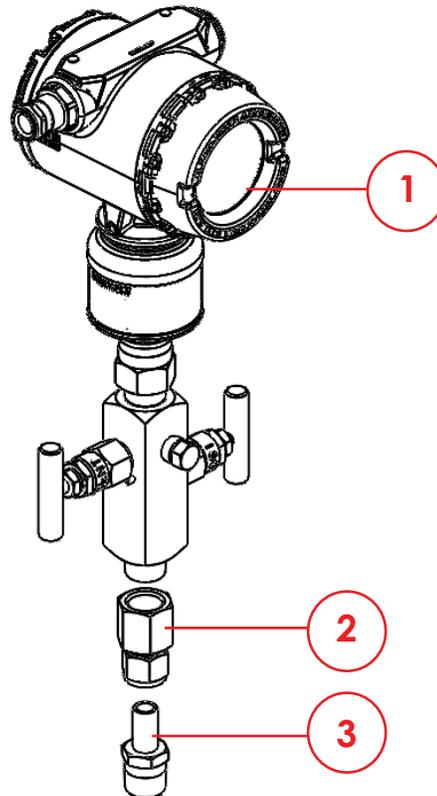

Figure 2: Transmitter assembly (with Swagelok fittings)
1. Remove the transmitters (Item 1) and discard the Swagelok fittings (Item 2 and Item 3). Refer to Figure 2.
1. There are six (6) pressure transmitters installed on the MPD Manifold. Remove the transmitters (Item 1) and discard the Swagelok fittings (Item 2 and Item 3). Refer to Figure 2.